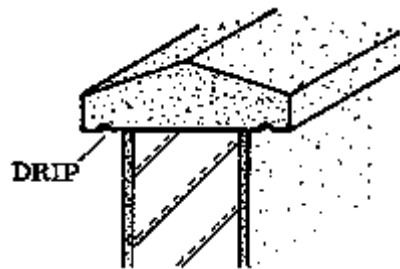

Fig. 1
- SADDLE-BACK COPING: This is placed on top of the wall as shown in Fig. 1. The formwork for the coping is shown in Fig. 2. The drip or throating is made by setting two pipes or smooth iron rods in the wet concrete. The correct position can be assured by using wooden spacers tied to the pipe (Figs. 2 & 2a).